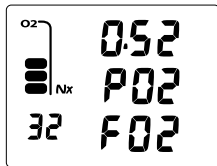

Fig. 79 - DECO ALT 2
**DECO STOP ALT 2**, information includes (Fig. 79)